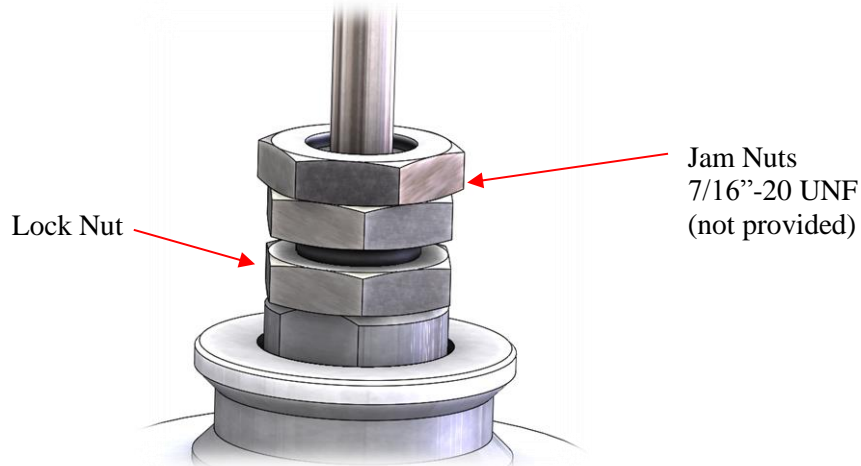

Figure 20: Jam Nuts Used on Adjustment Screw
7. Loosen the lock nut by using two additional jam nuts on the adjustment screw to prevent it from turning. See Figure 20.